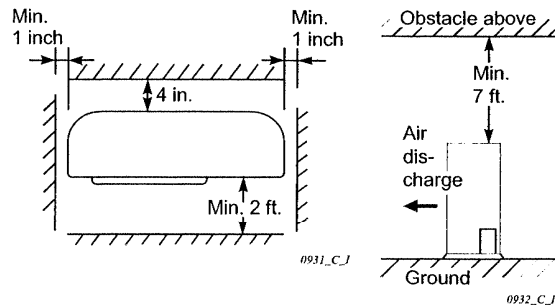

Fig. 5
- allow enough room around unit for air intake/ exhaust and possible maintenance. Fig. 5